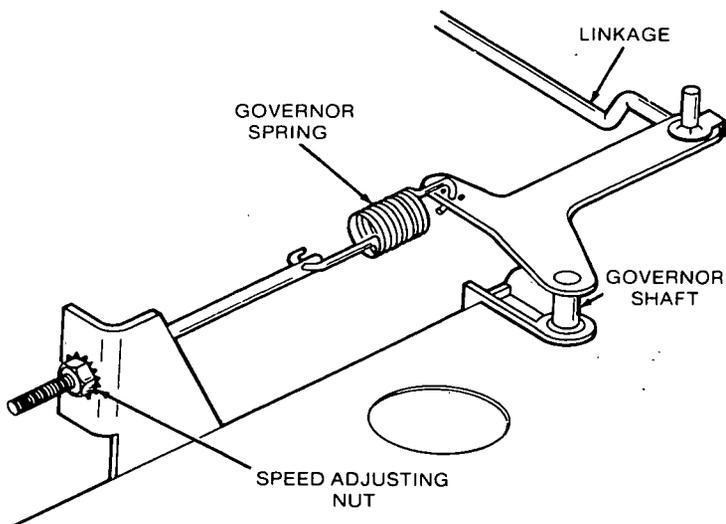

FIGURE 12. GOVERNOR ADJUSTMENTS
3. With the warmed-up unit operating at NO LOAD, adjust the tension of the governor spring (see Figure 12). Turn the speed adjusting nut to obtain a voltage of 130 volts (for 120 volt operation) or 260 volts (for 240 volt operation).
closest regulation (least voltage difference between no load and full load) without causing a hunting condition. Moving the governor spring closer to the governor shaft increases sensitivity. See Figure 12.